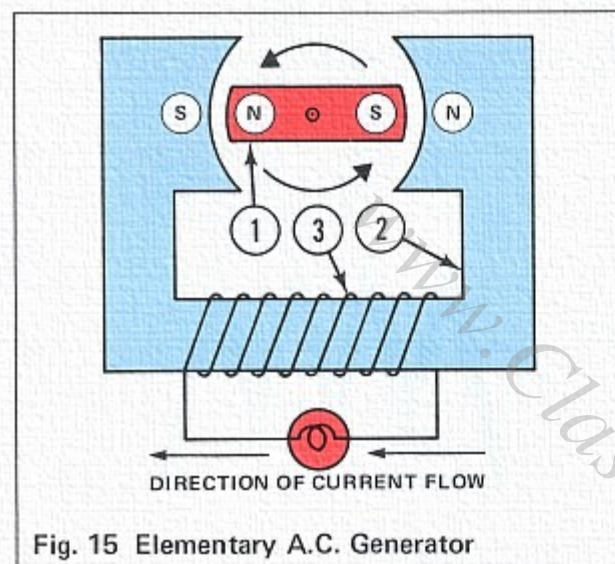

Fig. 15 Elementary A.C. Generator
Fig. 15 & 16 show an elementary A.C. generator. A permanent magnet (1) is suspended within a soft iron frame (2) which completes the circuit for the permanent magnet's lines of force. The soft iron frame thereby becomes a temporary magnet, concentrating lines of magnetic force around the wire coil (3).
The elementary A.C. generator shown in Fig. 15 & 16 has a two-pole rotating magnet and a two-pole soft iron frame. The induced current therefore reverses every 180° . A full cycle is completed every 360° .